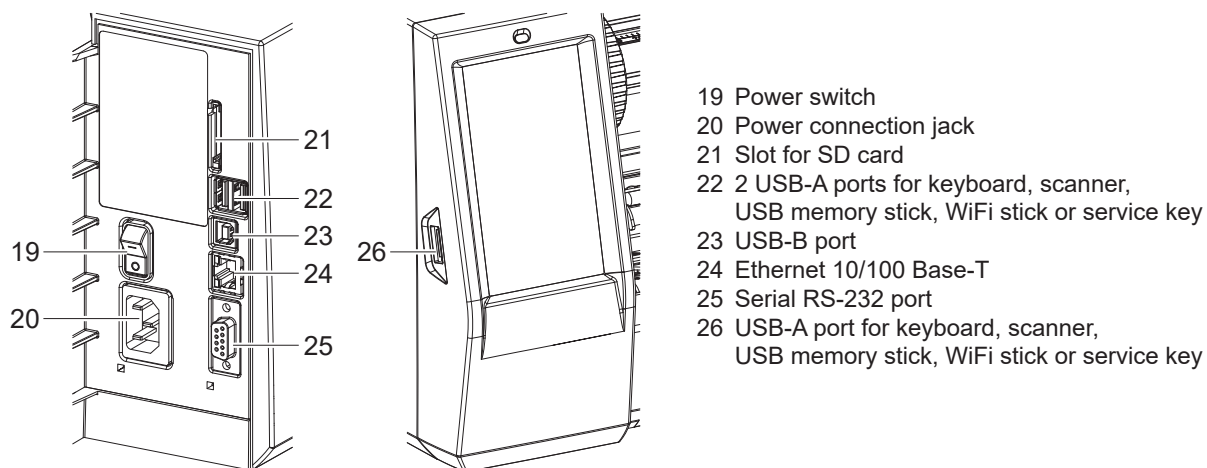

Figure 3 Connections
The standard available interfaces and connectors are shown in Figure 3.
2. Plug the power cable into the power connection jack (20/Figure 3).
- ▶ Switch the printer on at the power switch (19/Figure 3).